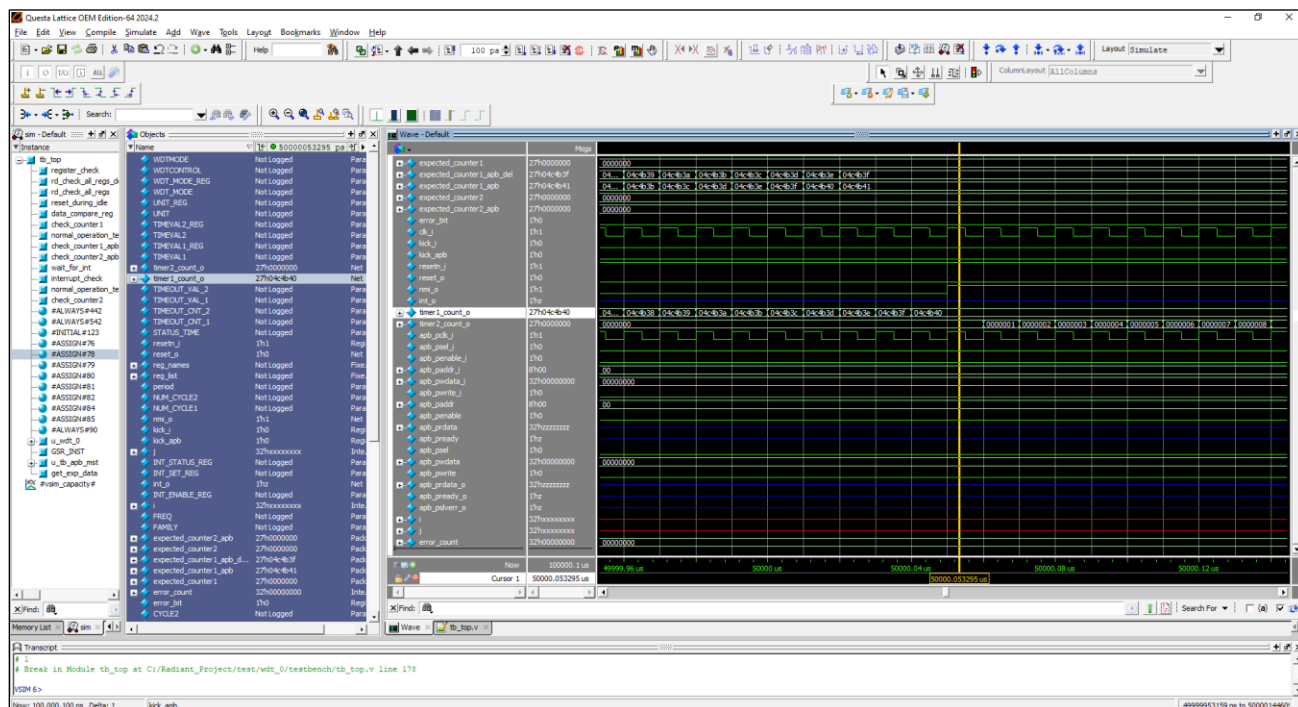

Figure 7.8. Simulation Waveform
- Click **Finish** to run the simulation. The waveforms in Figure 7.8 shows an example simulation result.